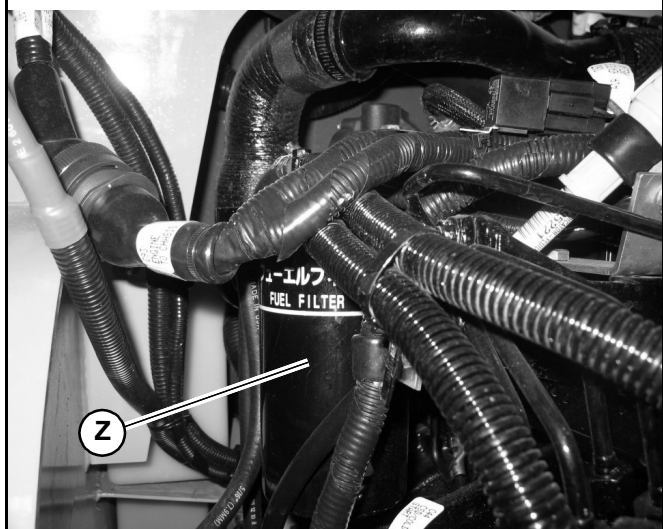

Fig. 102 – Engine Fuel Filter
5. Remove the fuel filter (Z, Fig. 102), using a filter wrench if necessary. Carefully clean the filter head mounting surface with a clean cloth.